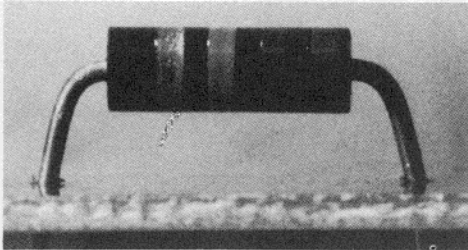

Fig. 7.10 Component Lead Spacing
1. Components leads should be bent to exact spacing of mounting holes in PC board (Fig. 7.10). This allows leads to enter PC board at right angles and relieves stress.